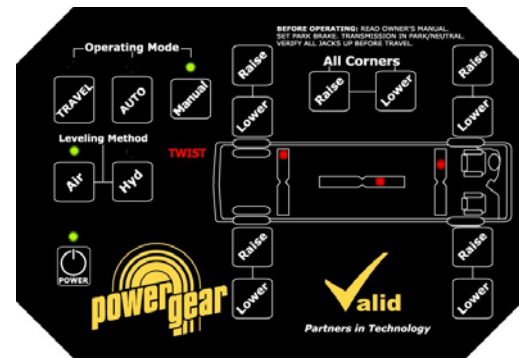

Fig 4
*For example: if the vehicle is in a state as indicated by Fig. 4, the leveling controller will not allow the right front to be raised, the left front to be lowered, the right rear to be lowered, or the left rear to be raised.*